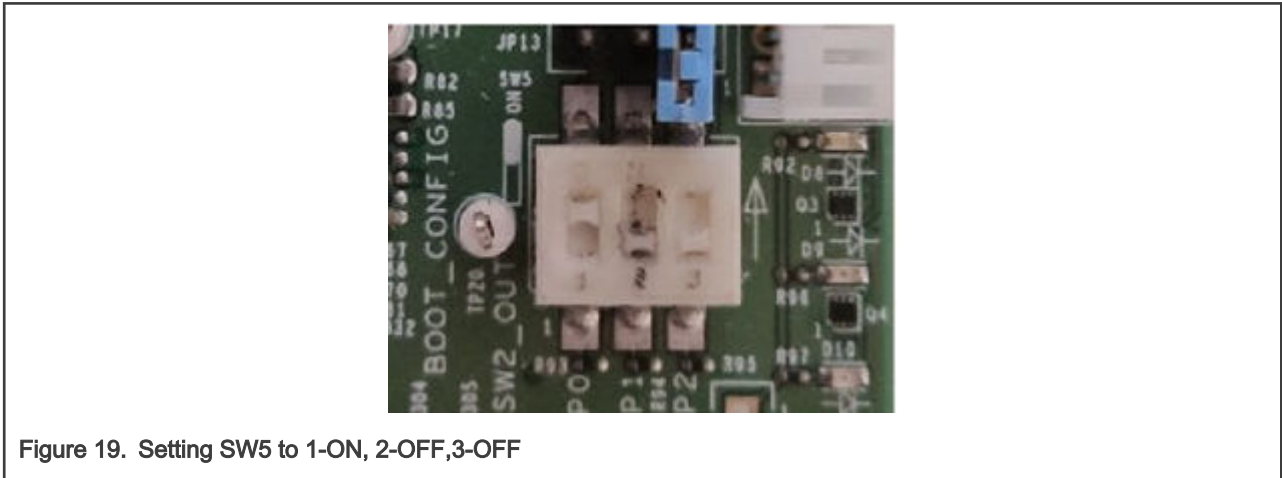

Figure 19. Setting SW5 to 1-ON, 2-OFF,3-OFF
2. Set up the hardware to ensure booting from the FlexSPI-enabled NOR flash. For this, the settings for SW 5 on the RT685 EVK are as follows: The ISP0 is on/high, and ISP1 and ISP2 are both low, as shown in Figure 19.